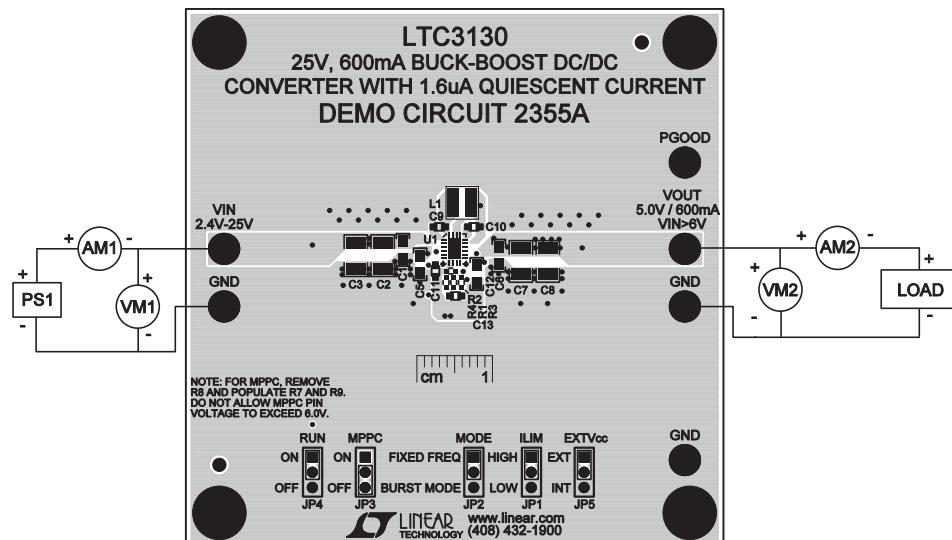

Figure 4. Proper Measurement Equipment Setup
Using short twisted pair leads for any power connections and with all loads and power supplies off, refer to Figure 4 for the proper measurement and equipment setup. The power supply (PS1) should not be connected to the circuit until told to do so in the procedure below.
2. With power OFF connect the power supply (PS1) as shown in Figure 4. If accurate current measurements are desired (for efficiency calculation for example) then connect ammeters in series with supplies as shown. The ammeters are not required however.
3. Connect a 500mA load (10Ω) to V_{OUT} as shown in Figure 4.